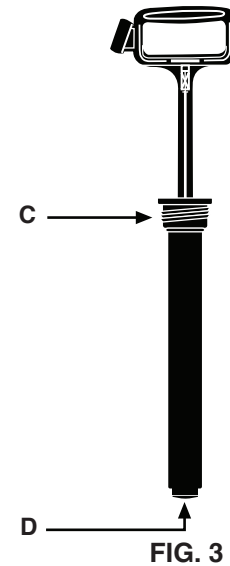

FIG. 3
- Step 4. Check pump assembly. (FIG. 3)
- Pumps with top thread (FIG. 3) do not disassemble.